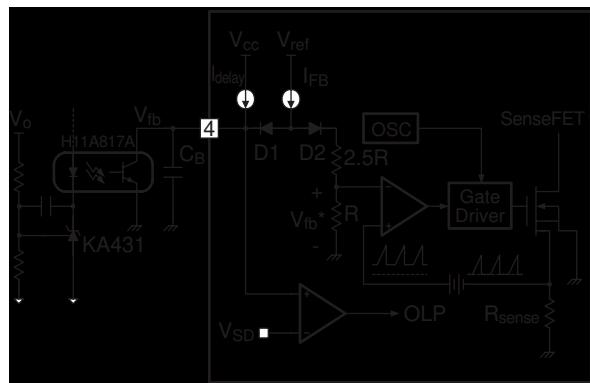

Figure 11. Pulse Width Modulation (PWM) Circuit
3. Feedback Control: The FSCQ-Series employs current mode control, as shown in Figure 11. An optocoupler (such as Fairchild's H11A817A) and shunt regulator (such as Fairchild's KA431) are typically used to implement the feedback network. Comparing the feedback voltage with the voltage across the R_{sense} resistor plus an offset voltage makes it possible to control the switching duty cycle. When the reference pin voltage of the KA431 exceeds the internal reference voltage of 2.5V, the H11A817A LED current increases, pulling down the feedback voltage and reducing the duty cycle. This event typically happens when the input voltage is increased or the output load is decreased.
3.1 Pulse-by-Pulse Current Limit: Because current mode control is employed, the peak current through the SenseFET is limited by the inverting input of the PWM comparator (V_{fb}^*) as shown in Figure 11. The feedback current (I_{FB}) and internal resistors are designed so that the maximum cathode voltage of diode D₂ is about 2.8V, which occurs when all I_{FB} flows through the internal resistors. Since D₁ is blocked when the feedback voltage (V_{fb}) exceeds 2.8V, the maximum voltage of the cathode